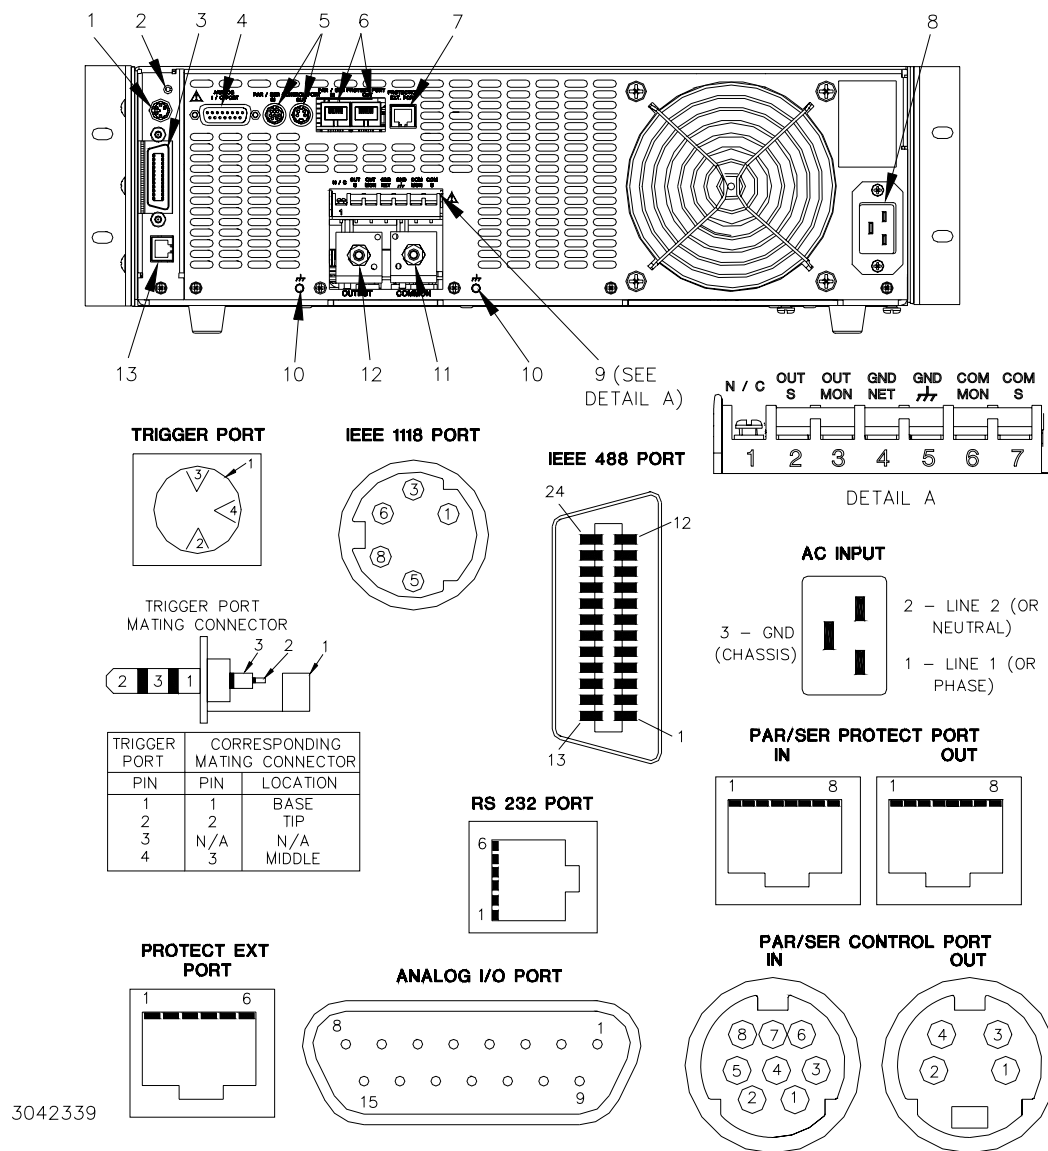

FIGURE 2-1. BOP SERIES REAR PANEL
b) Rear Panel: Refer to Figure 2-1 and Table 2-1.